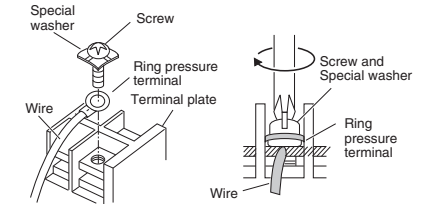

Fig. 5-4
- Place the ring pressure terminal, and replace and tighten the removed terminal screw using a screwdriver. (Fig. 5-4)